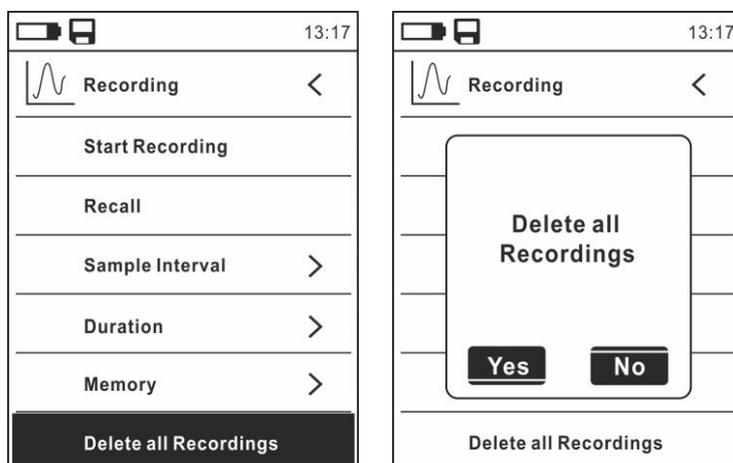

Fig. 38: Data logger function – Deleting all recordings
26. Select item “Delete all recordings” (see Fig. 38 – left side) and press key ≡. The screen in Fig. 38 – right side appears on the display.